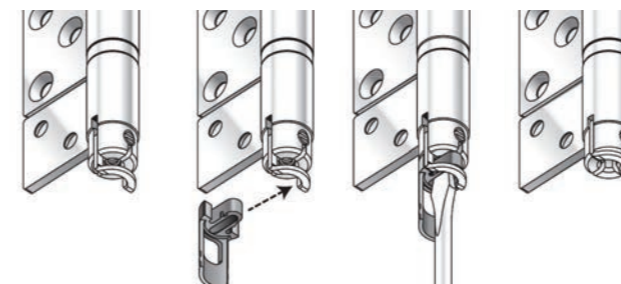

Figure 38: Vertical adjustment with shipping clip
1. With the doors closed, insert the shipping clip (as shown in Figure 38) into the hinge.